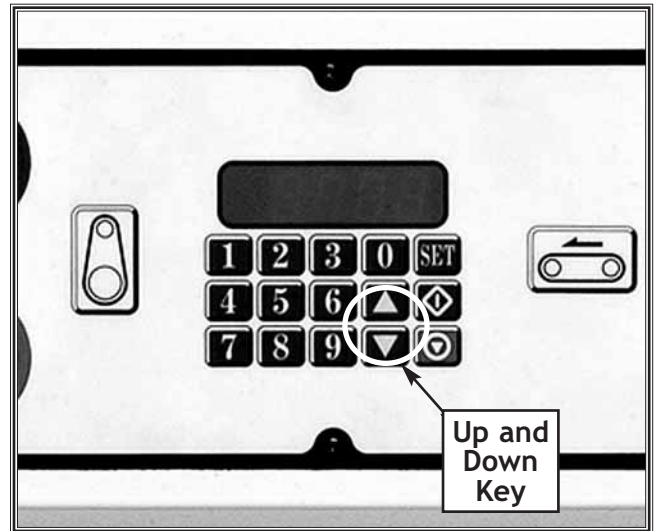

Figure 22. Key pad table-lift controls.
2. Push the down arrow key and lower the table until you achieve 6 inches between the sanding drum and the conveyor table surface. See **Figure 22**.